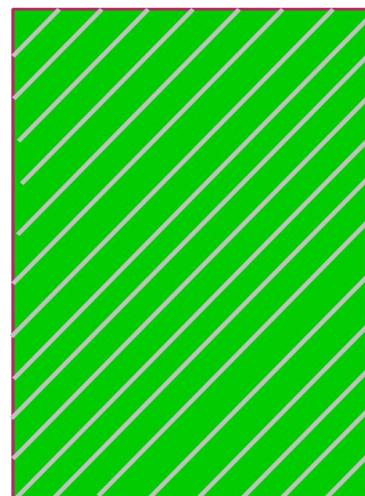

Figure 13. Oblique mura
3.1.3. ELA Mura - oblique mura: (figure 13)